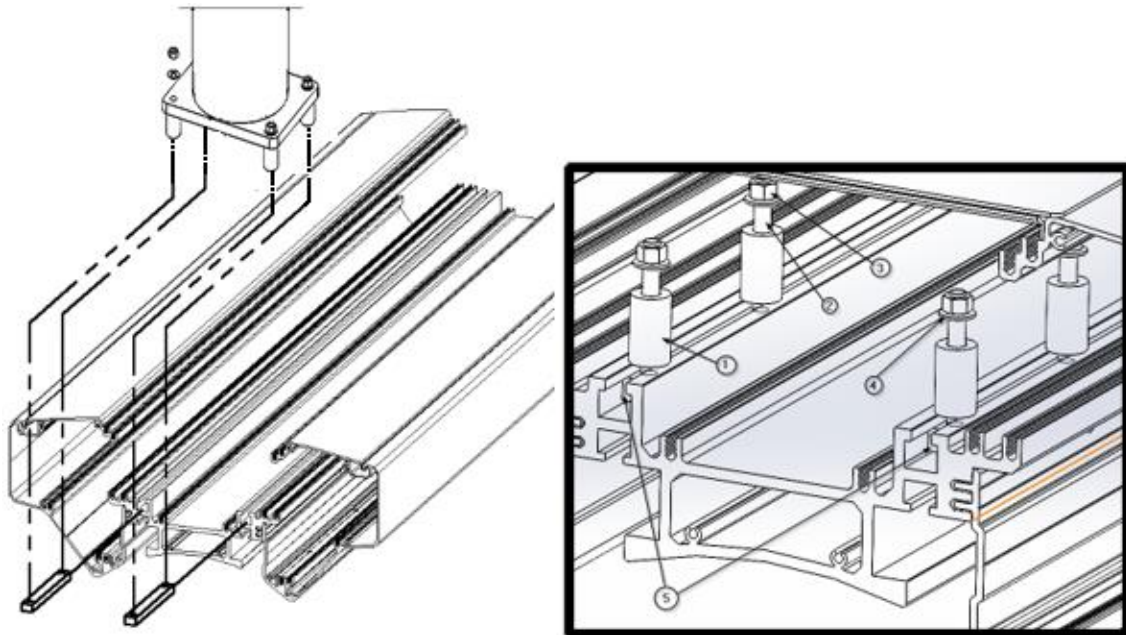

Fig. 13 Anchoring diagram of an ABITUS main body section on a downspout
Inside each suspended head section (main body) there are spacers ①, M8 x 80mm threaded bolts ②, M8 hex nuts ③, S10 lock washers ④ and platens ⑤, which are required for fastening to the downpipes. See picture on the right in figure 13.
- Remove the M8 hex nuts ③ ③ and S10 lock washers ④ and store them in a safe place.
- Fit the threaded bolts ② and use them to anchor the suspension chassis to the downpipe as shown in the picture on the left in figure 13, but do not tighten them completely.
- Make sure that the equipment is aligned and level. Then tighten the M8 nuts ③ ③ of all downpipes to a torque of 40 Nm.